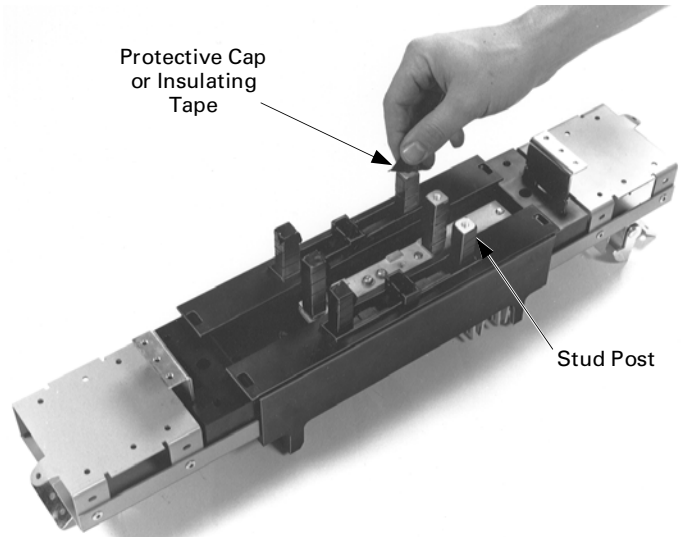
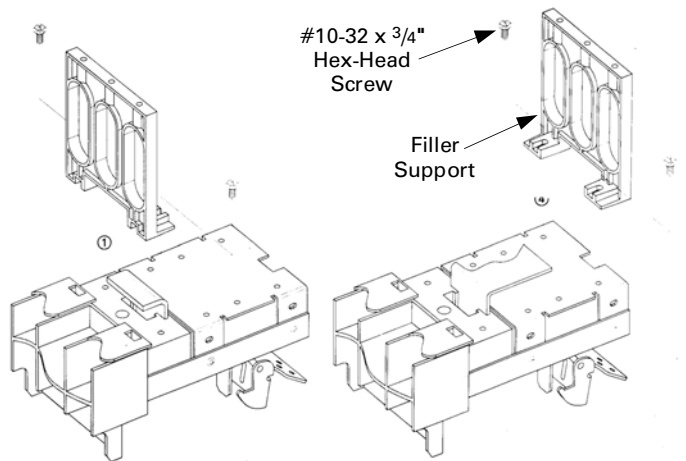

Figure 2. Removing the caps or tape from the stud posts of the breaker module.
Figure 3. Fastening the filler supports in position.
**2. Prepare the breaker module.** Remove the protective caps or insulating tape only from the tops of the stud posts to which the circuit breaker is to be attached, as shown in Figure 2. Fasten the filler supports, as shown in Figure 3, with #10-32 x 3/4" hex-head screws tightened to 15–20 in-lb. The proper position of the filler support is listed in Table 1.